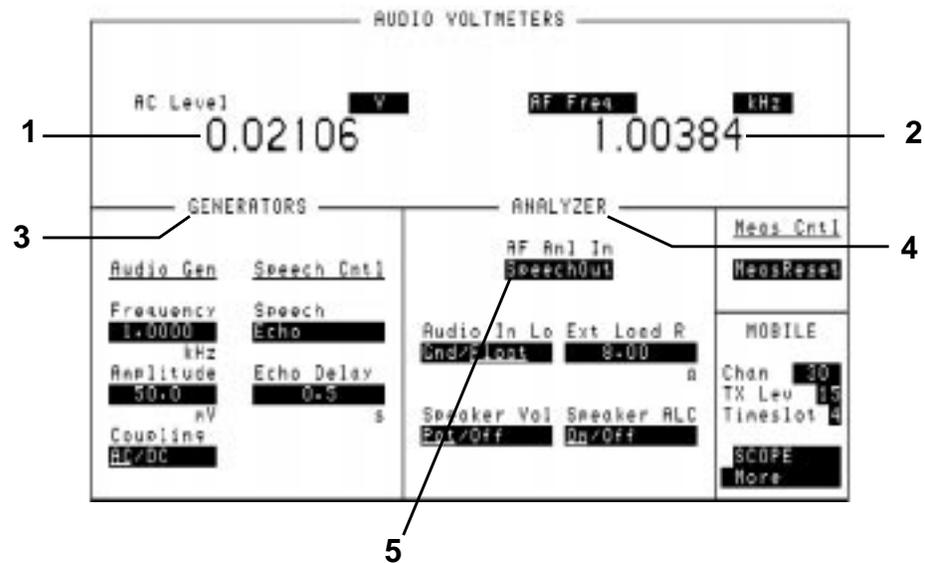

Figure 2-14
The audio function measures the audio frequency and voltage of the demodulated signal from the mobile phone or from a number of other sources selectable using **AF An1 In (5)**, see Figure 2-14 on page 2-27.